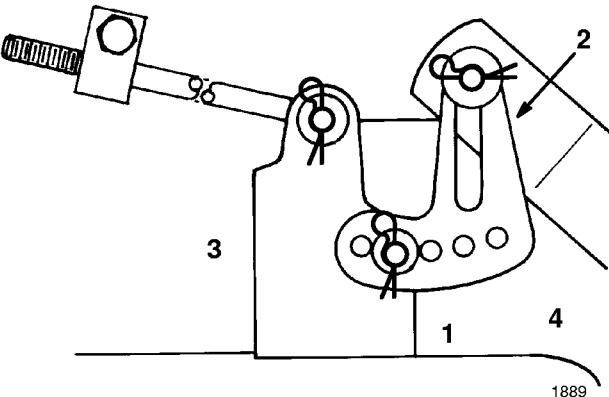

Figure 50
5. Remove the hairpin cotter and washer from the leveling bracket (Fig. 50). To level the blade(s), reposition the leveling bracket in a different hole and install the washer and hairpin cotter (Fig. 50). A front hole lowers the blade height and a rear hole raises its height. Repeat this procedure on the opposite side.